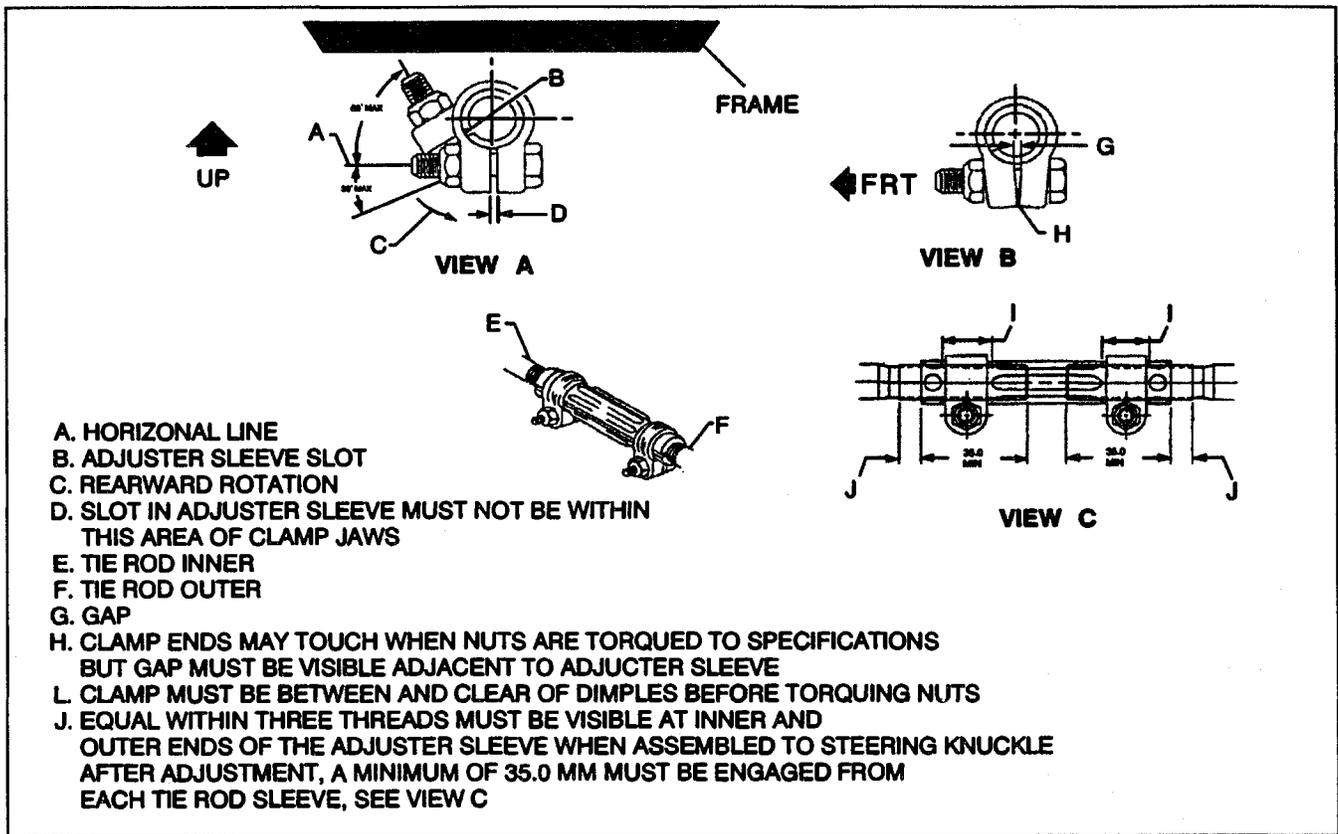

Figure 6—Tie Rod Clamp and Adjuster Tube Positioning
**Adjust (Figure 6)**
1. Position adjuster tube clamp bolts (Figure 6). Before tightening the clamp bolts, be sure the following conditions have been met:
- B. The clamps must be positioned within the angular travel shown in Figure 6.
- D. The clamp ends may touch when nuts are tightened to specification, but the gap next to the adjuster tube must not be less than the minimum dimension shown in Figure 6.
- C. Ears of the drag link adjuster clamps must be rotationally positioned as in (Figure 6).
- C. Tie rod adjuster tube clamps must be positioned as specified in Figure 6.